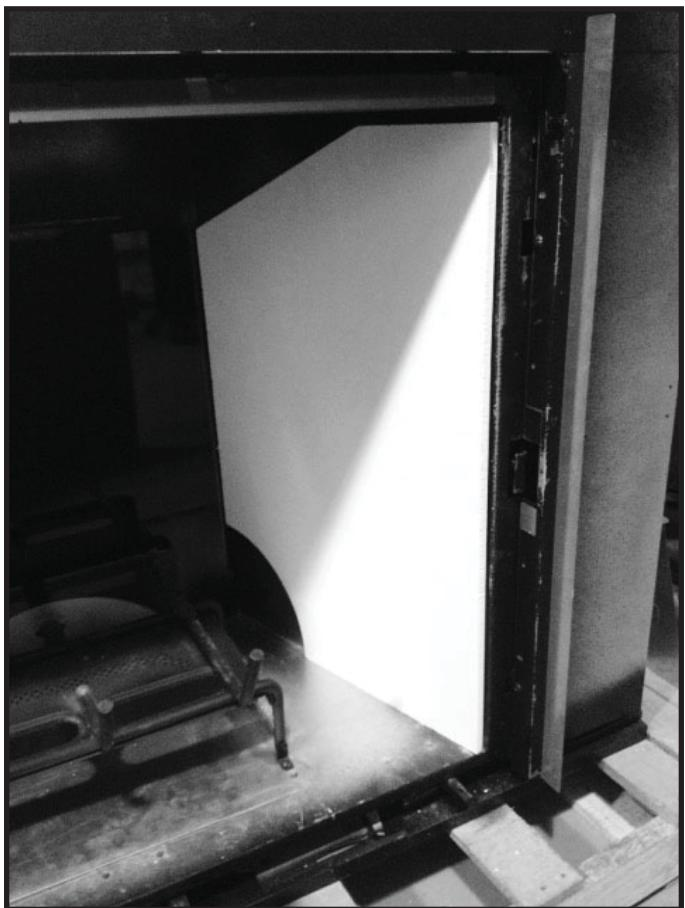

Figure 5. Right Spacer
4. Place one of the white side spacers on the right side of firebox and slide into place as shown in Figure 5. Spacer will be flush with firebox lip when installed properly.